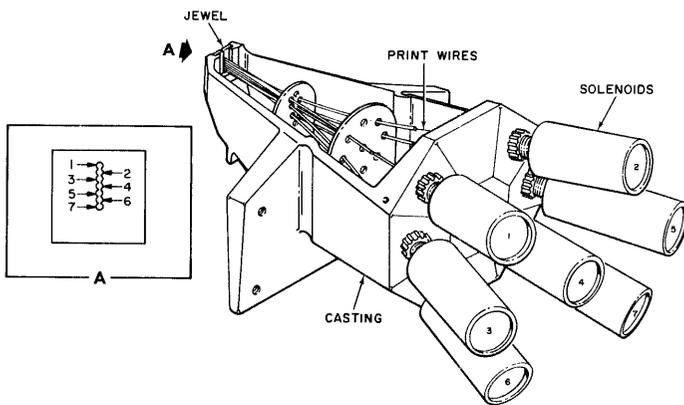

Figure 1-3. PRINT HEAD COMPONENTS
1.3.1 CHARACTER PRINTING (Figures 1-3, 1-4)
The print head (Figure 1-3) consists of the jewel, casting and seven solenoids with attached print wires. The seven print solenoids and their attached print wires are arranged radially around the print head. The free ends of the print wires pass through a wire guide at the front of the print head, which properly spaces the wires so that the correct wire passes through the correct hole in the print jewel.